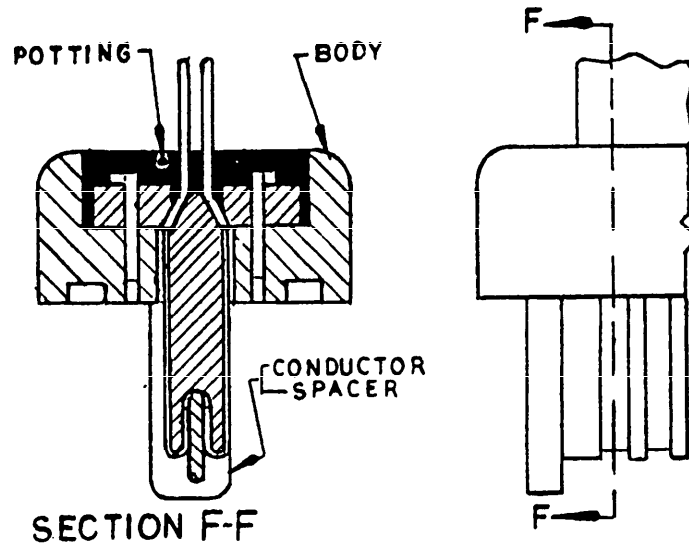

FIGURE 7. Potting installation.
- H. Apply potting compound around and between cables at rear of the plug. See Figure 7 (Potting Installation). Allow sufficient curing time, compatible with type of potting compound used.